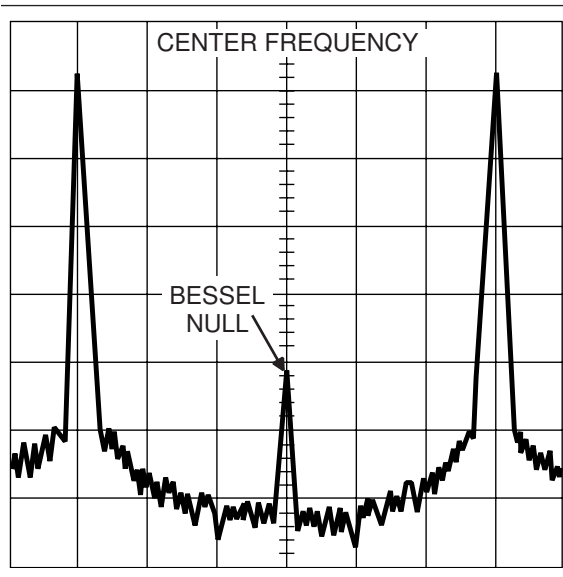

Figure 3-9. Typical Spectrum Analyzer Display of Bessel Null on FM Waveform
6. On the 681XXC, use the cursor control key to place the cursor under the last 0 in the sensitivity setting (0.240 MHz/V). While observing the first Bessel null (Figure 3-9), increase/decrease the sensitivity setting with the cursor control key to reduce the carrier as low as possible.
5. On the 681XXC, use the cursor control key to place the cursor under the last 0 in the sensitivity setting (0.240 MHz/V). While observing the first Bessel null (Figure 3-9), increase/decrease the sensitivity setting with the cursor control key to reduce the carrier as low as possible.